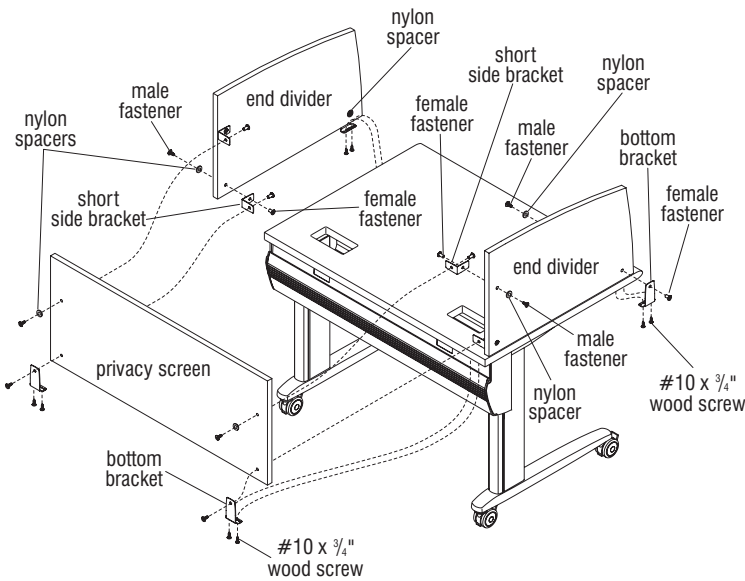

Figure 5
- Using male/female fasteners and nylon spacers where required, attach short side brackets to the inside locations of each end divider as illustrated. Attach one bottom bracket to each end divider at the outside lower front location using male/female fasteners and nylon washers as illustrated (Figure 5).
- Align the bottom bracket of the end dividers to the correct mounting holes at the underside of the worksurface. The correct mounting location will allow the privacy screen to be mounted to the back edge of the table. Secure the bottom bracket of each divider to the underside of the worksurface using a short T-25 driver bit to thread in two #10 x 3/4" wood screws at each bottom bracket (Figure 5).
female fastener through the short side brackets and into the male fastener to hold the divider in place (Figure 5).
- Secure the top of the privacy screen to the top short side brackets of the dividers using male/female fasteners and nylon spacers as required. To properly align the divider screen at the inside, insert a female fastener through the short side brackets and into the privacy screen. Insert a nylon spacer onto each male fastener and thread them into the female fasteners in the privacy screen to hold the divider in place at the outside (Figure 5).
- Secure each bottom bracket to the underside of the worksurface using two #10 x 3/4" wood screws (Figure 5).